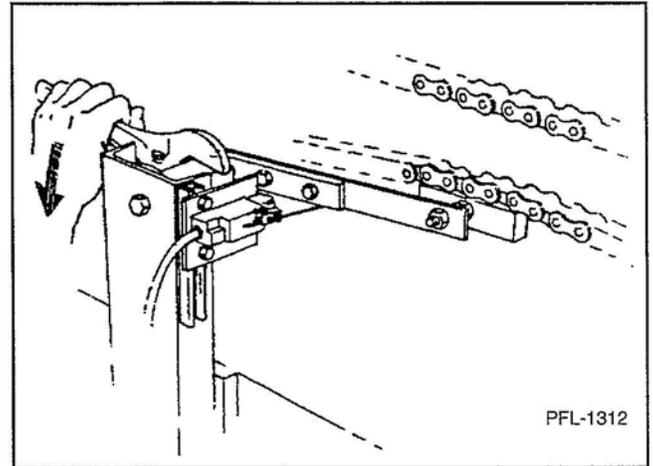

Figure 34
38. Adjust chain sensor tension. Loosen chain sensor mounting bolt slightly. Grasp the chain sensor base with a large adjustable wrench or pipe wrench and turn the base to take slack out of drive chains. See Figure 34.